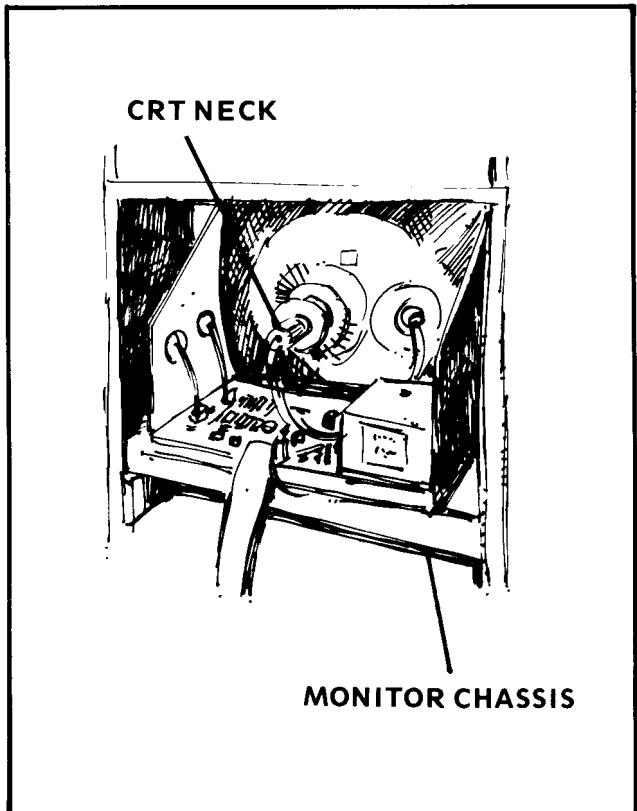

Figure 4-2 CRT Magnetic Centering Rings Location
- Turn the two CRT magnet rings, located on the neck neck of the CRT as illustrated in Figure 4-2, until the point where the X and the Y lines meet is centered on the monitor screen.